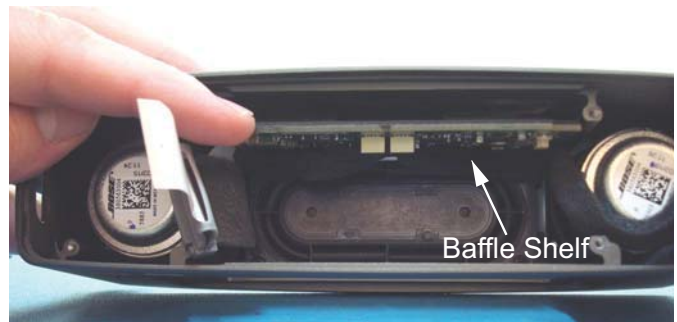

Figure 26. Main PCB Placement
4.3 The back edge of the Main PCB should rest on the shelf of the rear baffle. Figure 26.